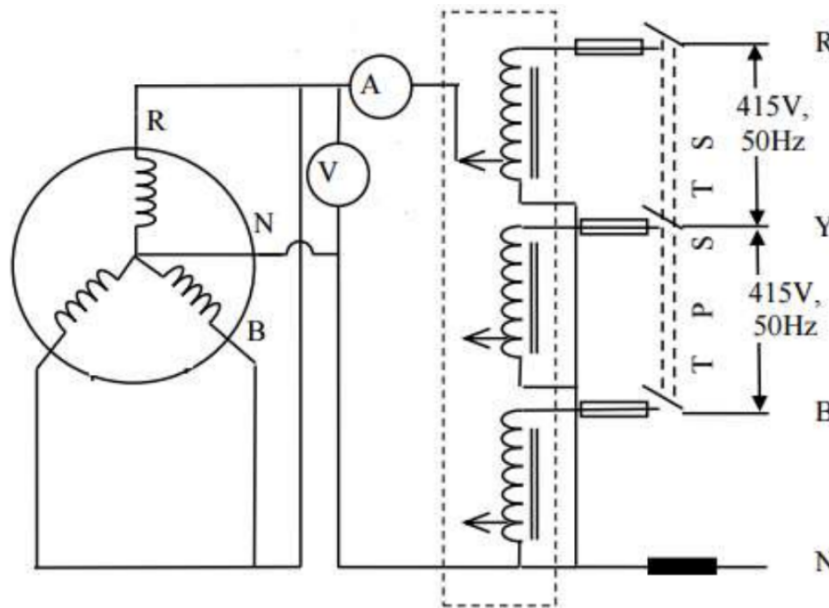

Figure 2: Circuit Diagram for Zero Sequence Impedance( $Z_0$ ) Measurement
- Connect the circuit as shown in Figure 2. (Circuit Diagram for Zero Sequence Impedance Measurement.)